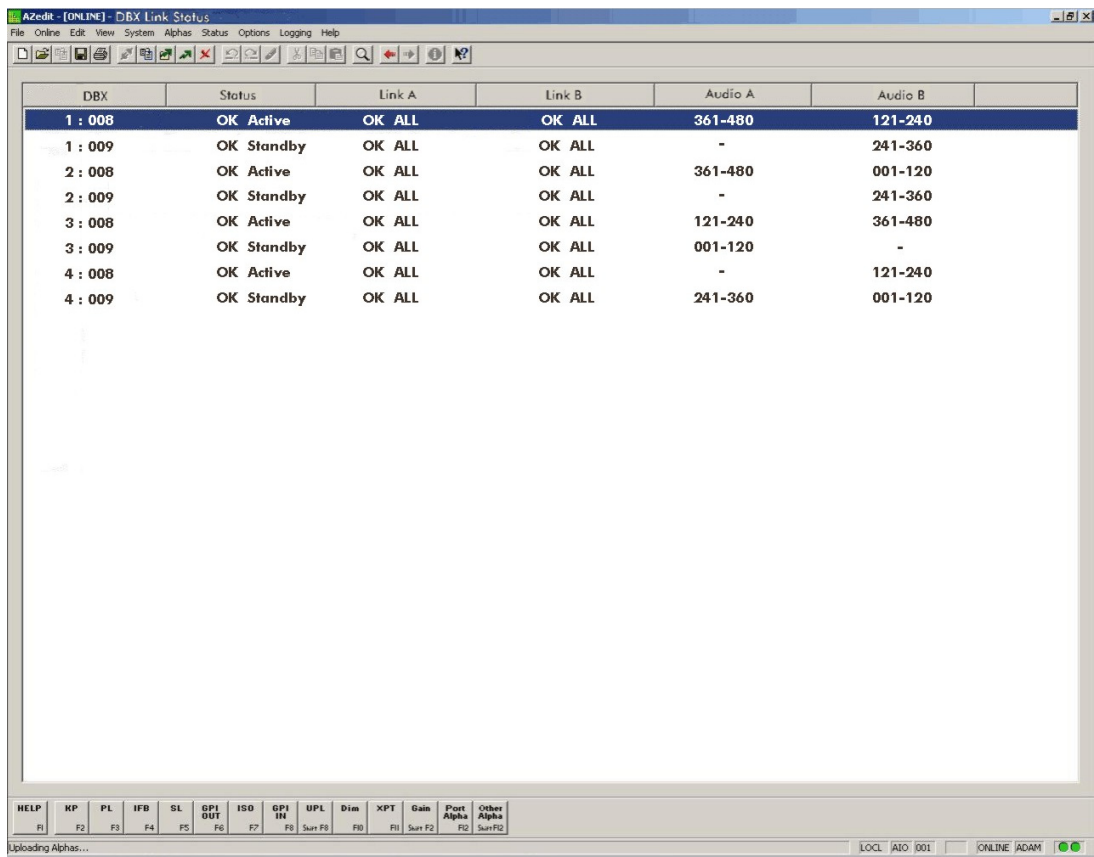

Figure 3. DBX Link Status (steps 14)
14. Check DBX Link Status. (fig 3)
26. Check DBX Link Status. (fig 3)